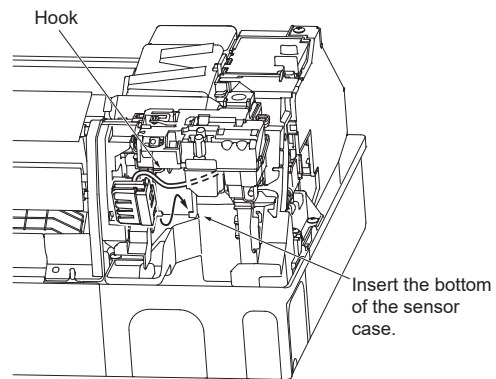

Fig. 3
- (4) Insert the refrigerant sensor in the direction of the arrow and then fix it with the hook. (Fig. 3)